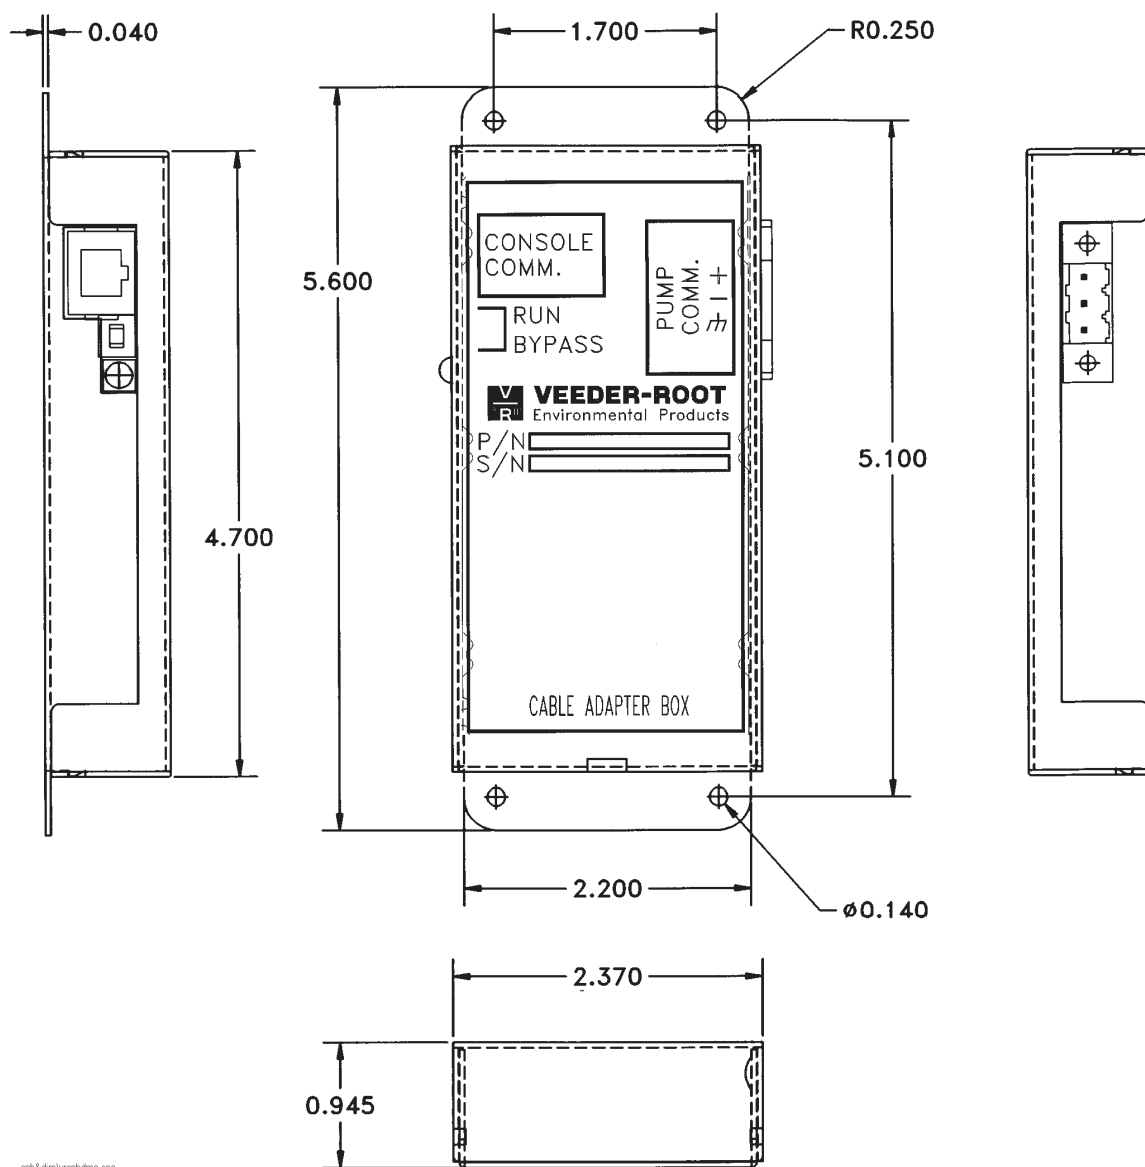
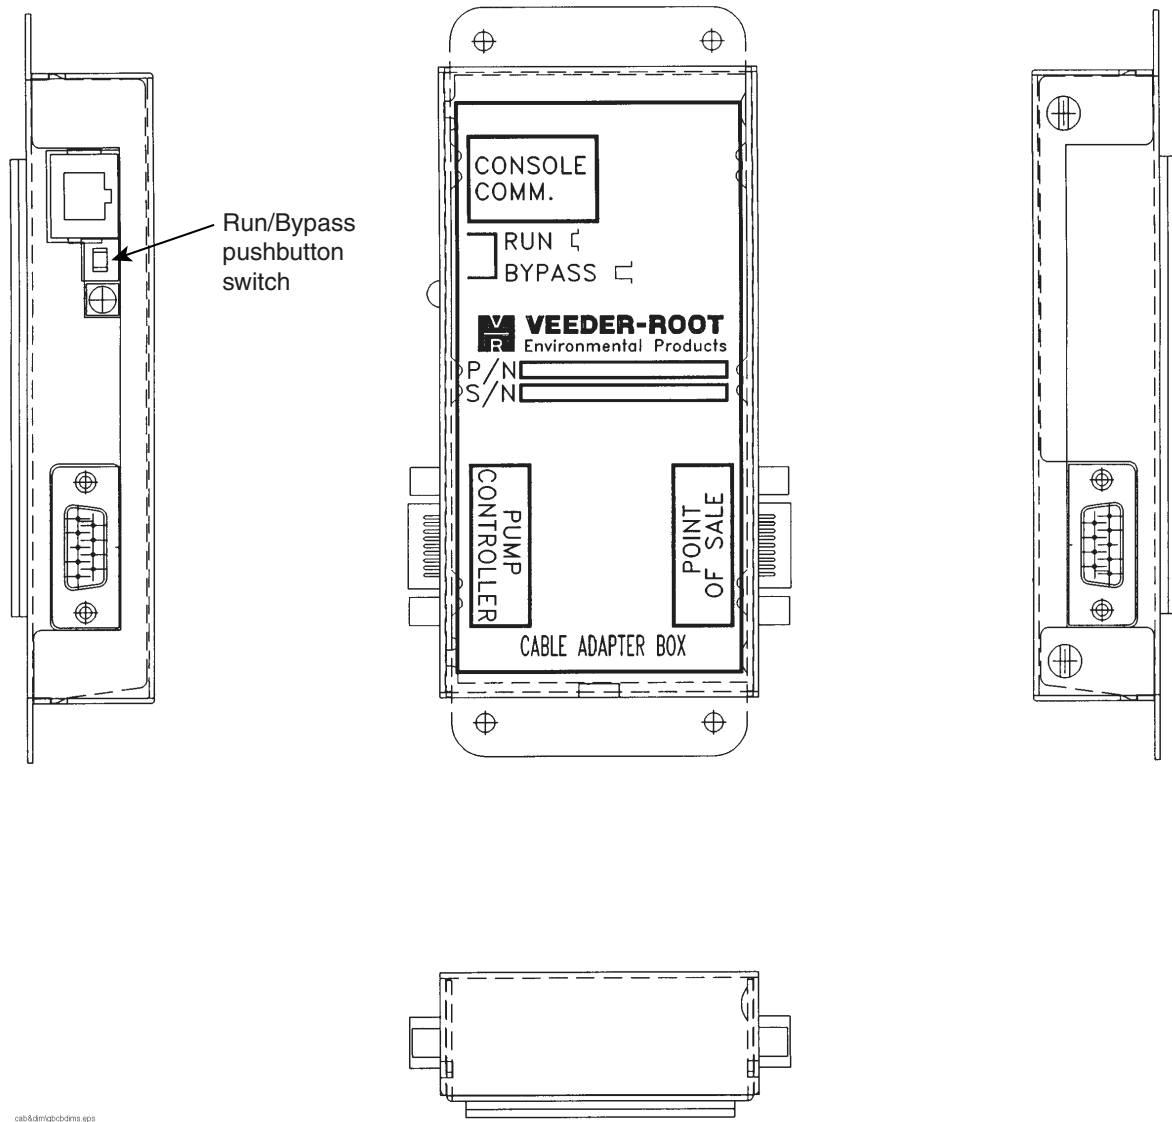

Figure 3. Dimensions of Transac Series and Transac 1000 Cable Adapter Box
Figure 4. Dimensions of Other POS Applications (with Gilbarco Dispensers)
3. Mount the CAB using either the 3M “hook and loop” pads provided in the kit, or utilize the mounting ears on the CAB (see Figure 3 on page 6 and Figure 4 on page 7). Place the adhesive side on the surface and press firmly into position. The adhesive must be allowed to set for a minimum of one hour before attaching or